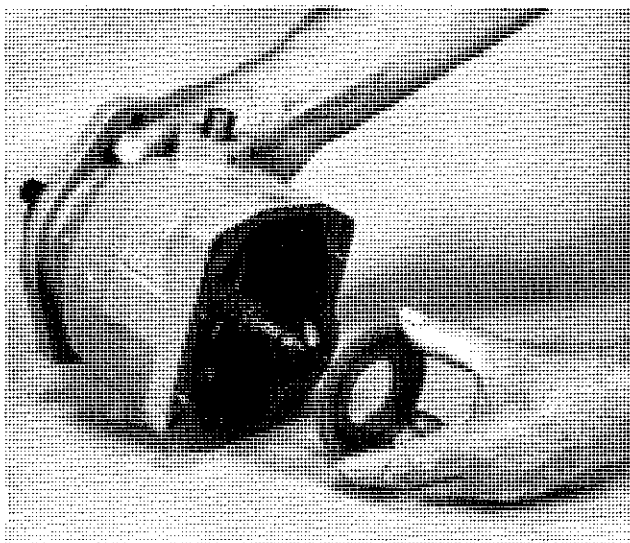

Figure VI-25. Removal of Swash Plate
14. Removal of Swash Plate (Figure VI-25)